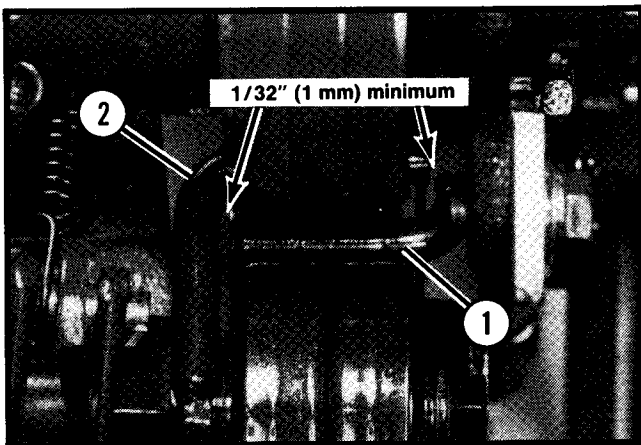

Figure 22. Reel Belt Stop Clearance
10. Disengage the reel belt idler, and check to make sure the idler pulley is centered over the three belts and that the two belt stops (the rear belt stop and the inner belt stop welded to the idler arm) have at least 1/32" (1mm) clearance (See Figure 22). The idler mounting hardware can be loosened to adjust the idler's position if required.
- When the reel belts are disengaged, the two stops shown in Figure 22 act as a brake to stop and hold